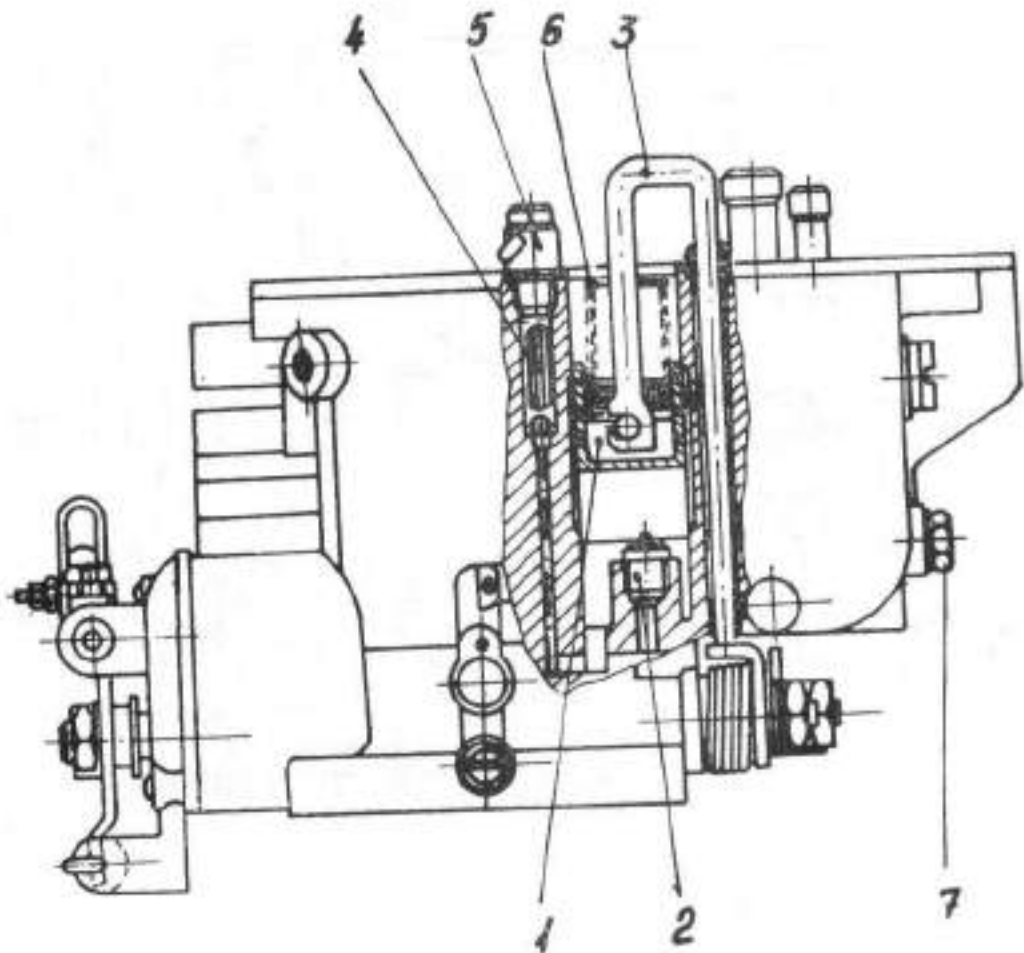

Fig. 4.7. INLET (CHARGE) VALVE
For high loads the fuel mixture is enriched by opening of the load valve (2) actuating the acceleration pump piston when the acceleration pedal is actuated at maximum stroke see, fig. 4.7.